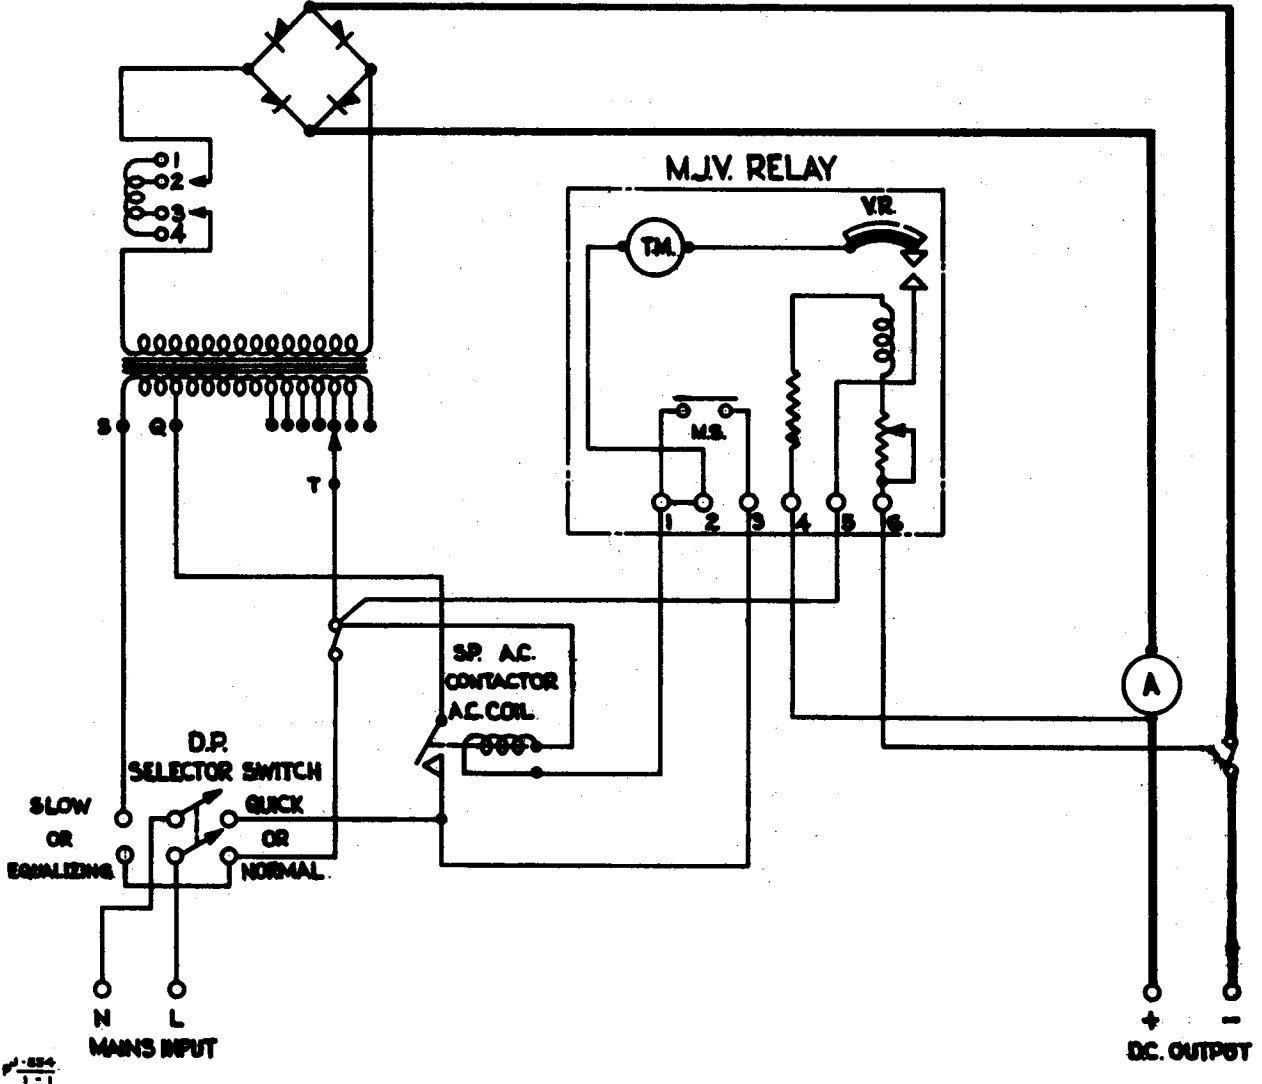

Fig 1 - Straight taper charger
17. Specimen circuit diagrams of taper and two step single-phase chargers are shown in Figs 1 - 4. These do not apply to pedestrian controlled trucks, for which see makers' handbooks. Some points on the design of chargers to meet a particular requirement are described in paras 18 - 22. Manufacturers must be consulted for further details.
19. Motor and switch: The Sangamo timing motor is completely enclosed but only sealed when used in the tropics. The motor operated switch may be mercury or metal to metal contact, and in both cases is trouble free providing it is operated within the current ratings given in Table 1. A contactor is used when higher current values than these are being broken, as shown in Figs 1 and 3.